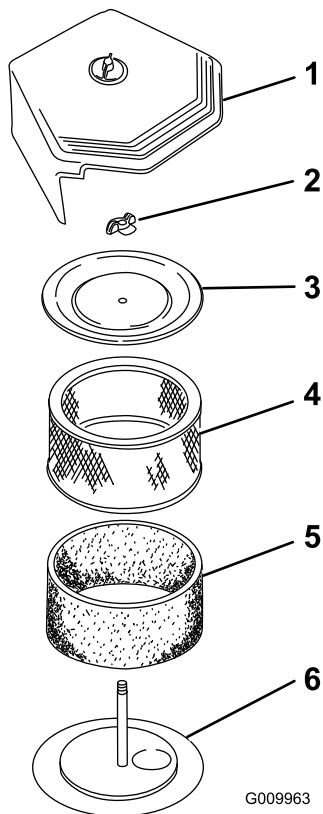

Figure 44
3. Loosen the cover retaining knob and remove the cover (Figure 44).
6. Remove the air filter cover nut and the cover (Figure 44).
2. Install the precleaner (ensure it is oiled) onto the air filter element (Figure 44).
3. Install the air filter element onto the base (Figure 44). Ensure that it is fully seated.
4. Install the air filter element cover and secure it with the element cover nut (Figure 44).
2. Wash the precleaner filter in warm water with detergent (Figure 44).